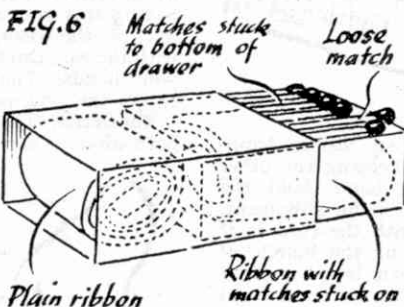

FIG. 7
When you have folded the visible piece of paper, pick up the scissors from the table with the hand that holds the paper. In doing this, drop the folded paper into the pinned-up cloth and pick up the packet from the clip. Fig. 5 shows the movement, which will be found quite easy and deceptive. Now place the scissors in a fold of the paper and take up the note pad. This pad has no cardboard backing and on one side you have written down, one under the other in three different kinds of writing, the figures 7, 3, and 5, which of course add up to 15. You can use any other figures and total you wish, but keep to single figure numbers and let the total be somewhere in the neighbourhood of 15. Do not put the total under the figures.
**The Secret.** If you look again at Fig. 6 you will see there is something more dishonest about the matchbox. It is upside down. A row of matches is glued to the bottom of the drawer with one match loose. You need the loose one to burn the paper with in the previous trick and that of course gets rid of it. The box appears to be full of matches, but inside the drawer and out of sight at the beginning of the trick is a piece of ribbon exactly the same as the one you have just produced, but with matches glued to it as shown in Fig. 7. The matches can be struck ones of course. The change from a box full of matches to one containing the ribbon is therefore simple. You close the drawer, toss the box on to the table, then pick it up after making the ribbon vanish and open it the other way up.